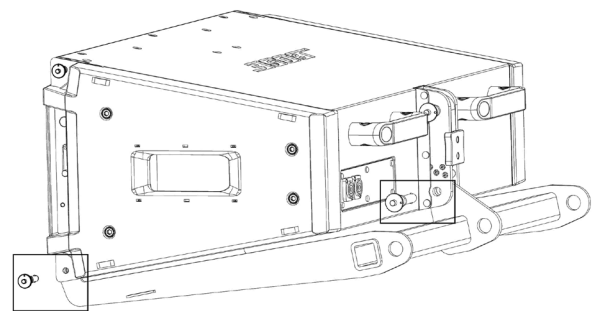

Fig 6. Insert pins to attach pull back bracket to module
4. Insert two front pins (one on each side), then insert one rear pin to secure pull back bracket to module. See Fig. 6.